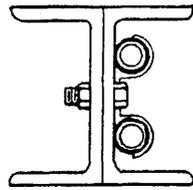

Figure 19. Method of Bolting Uprights Together Where Power Feeders Are Mounted.
- (d) Form a junction of the adjoining bays (using the junction material) by inserting all bolts between the uprights and tighten. The end of the bolt and nut should extend inside the channel or angle of the equipment opposite the side where power feeders are mounted (Figure 19).